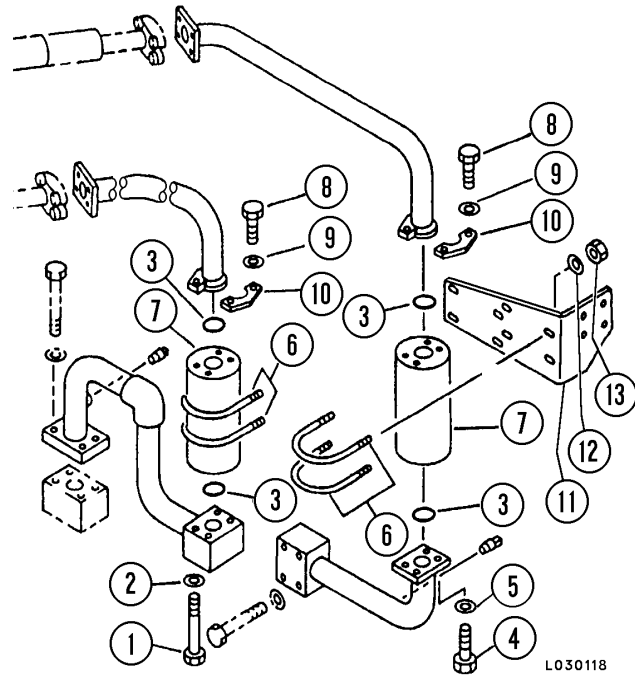

FIGURE 4-6. HIGH PRESSURE FILTERS & PIPING
4. Remove capscrews (1, 4, and 8, Figure 4-6), washers (2, 5, and 9), and split flanges (10) securing filters (7).
1. Remove plugs and/or covers from connections. Install new O-rings (3, Figure 4-6) in all locations. Install filter assemblies (7) to outlets and install capscrews (1 and 4), washers (2 and 5). Do not tighten capscrews to final torque at this time.
2. Move hydraulic tubes to filter housings inlets and reconnect with capscrews (8), washers (9), and split flanges (10). Do not tighten capscrews to final torque at this time.
3. Install U-bolts (6) holding filter assemblies (7) to bracket (11). Install washers (12) and nuts (13). Do not tighten nuts to final torque at this time.